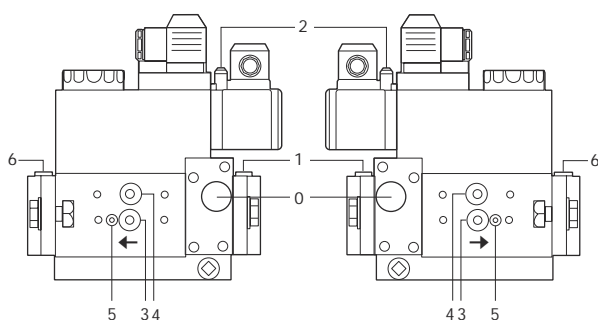
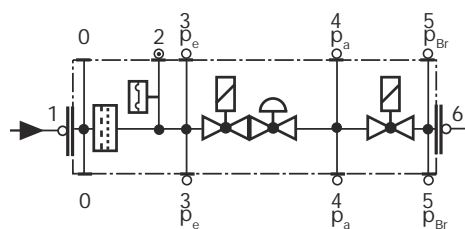

Fig. 22
Fig. 23
- Clean and examining the gas filter cartridge, if necessary replace it (Fig. 22 on).
- Change the filter if the pressure difference between pressure connection 1 and 3 (Fig. 22-Fig. 23) is  $\Delta p > 10$  mbar.
- Change the filter if the pressure difference between pressure connection 1 and 3 (Fig. 22-Fig. 23) is twice as high compared to the last check.